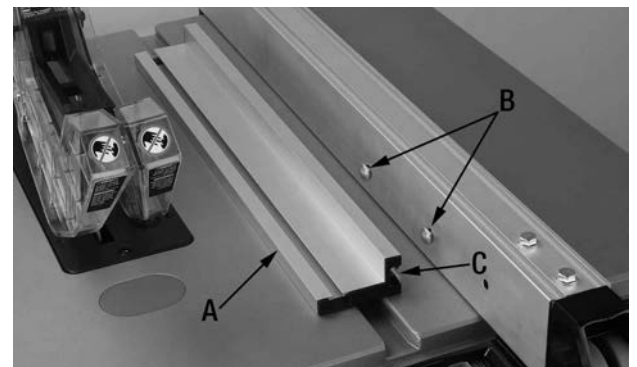

FIGURE 16
When ripping thin or narrow stock, it is recommended to install the included rip fence guide (A) Fig.16.
1. Insert two carriage bolts (B) Fig.16 into the two lower holes in the rip fence body. On the other side of the rip fence, loosely secure the carriage bolts using washers and wing nuts.
2. Slide the t-slot (C) of the guide (A) over the carriage bolts, position the guide in the desired location. Secure guide by tightening the wing nuts on the other side of the rip fence.